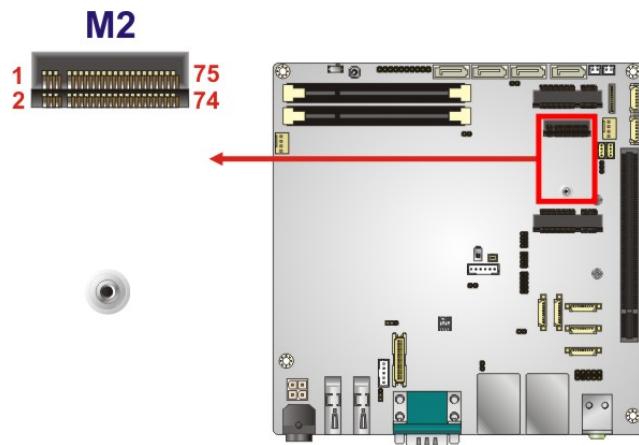

Figure 3-14: M.2 Slot Location
- CN Location:** See **Figure 3-14**